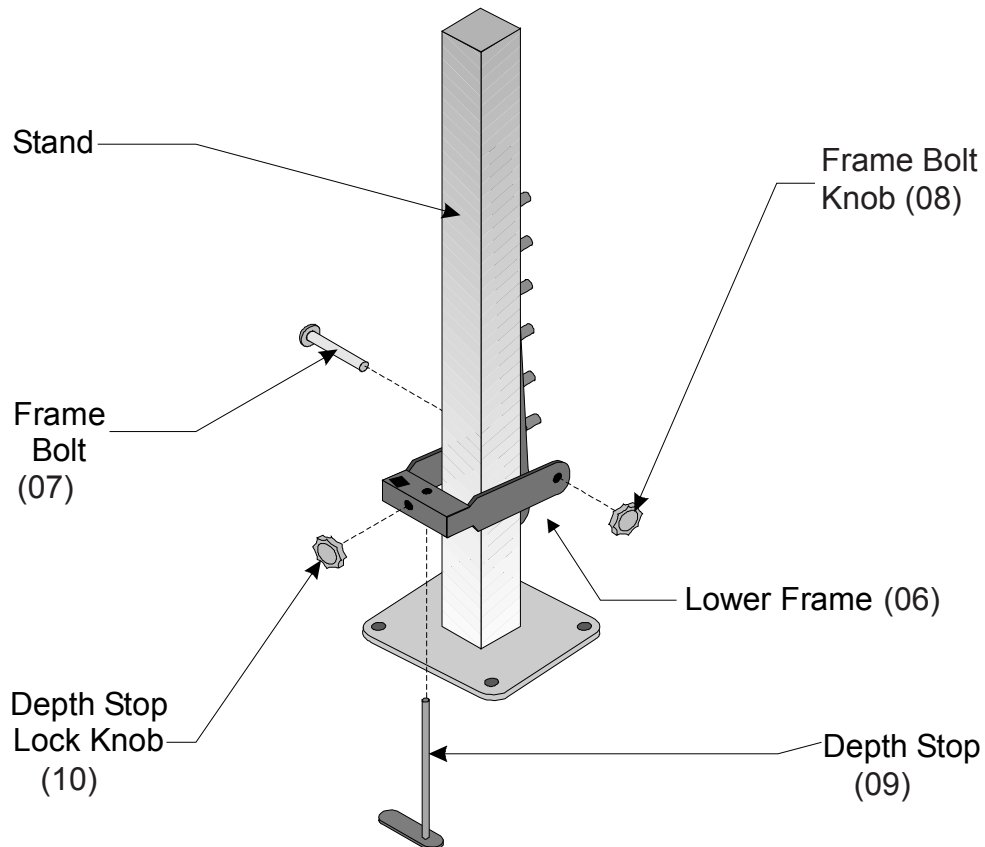

Figure 1 — Lower Frame Assembly
- Step 1: Using the FRAME BOLT (07) and FRAME BOLT KNOB (08), attach the LOWER FRAME (06) to the bottom of the STAND (11) of the Compact Bender. See Figure 1.
- Step 2: Insert the DEPTH STOP (09) into the round hole of the LOWER FRAME (06) and attach using the DEPTH STOP LOCK KNOB (10).